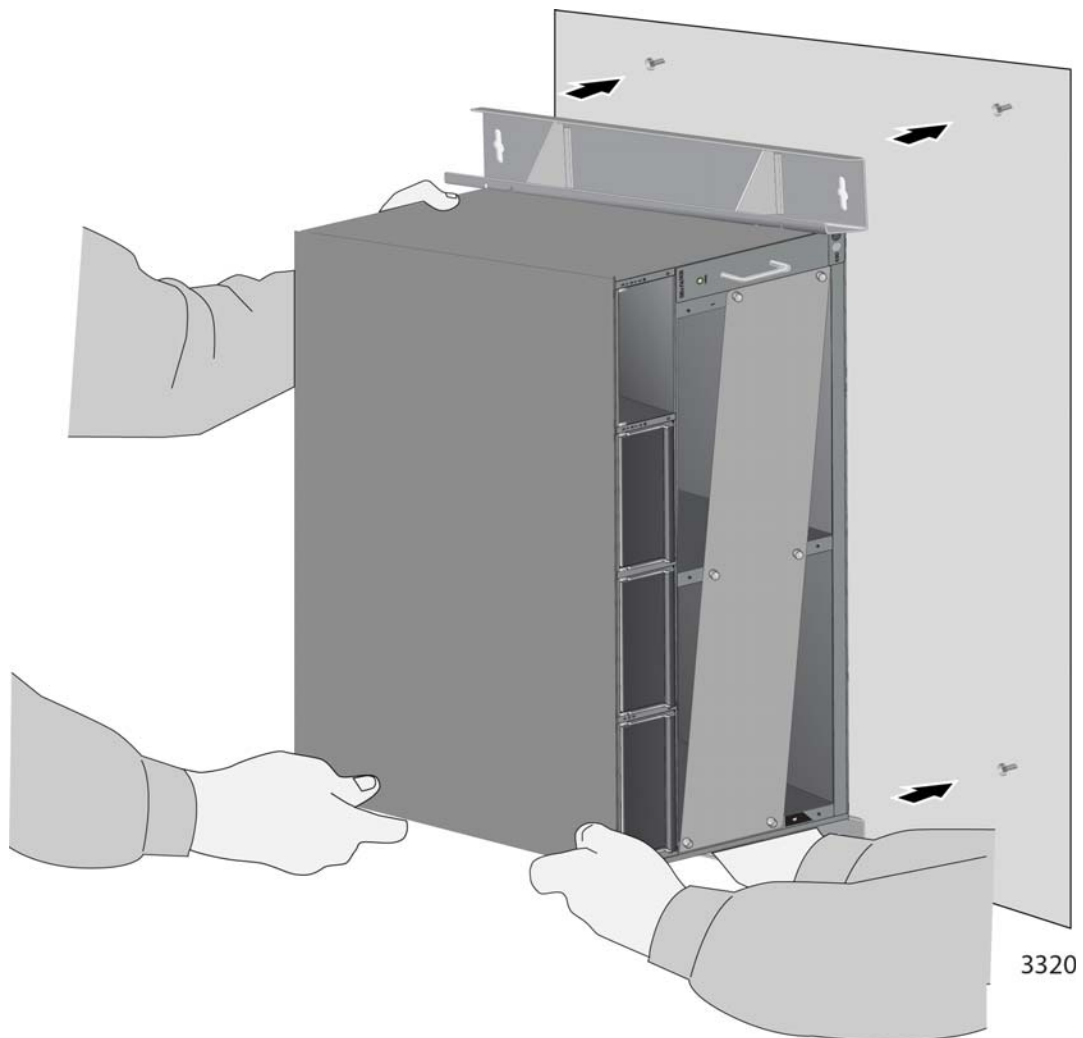

Figure 17. Placing the Chassis on the Wall
1. Have two people lift the chassis onto the screws on the wall. Refer to Figure 17.